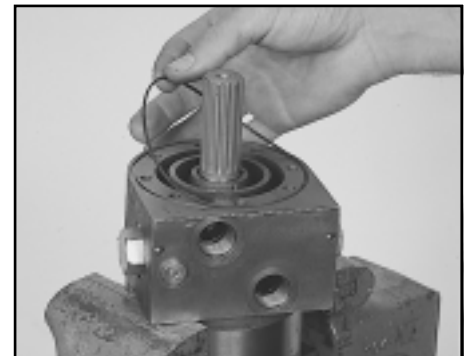

Figure A13
16. Turn motor right side up in the vice and install the square cut seal (3) in the center block seal gland. SEE FIGURE A13.